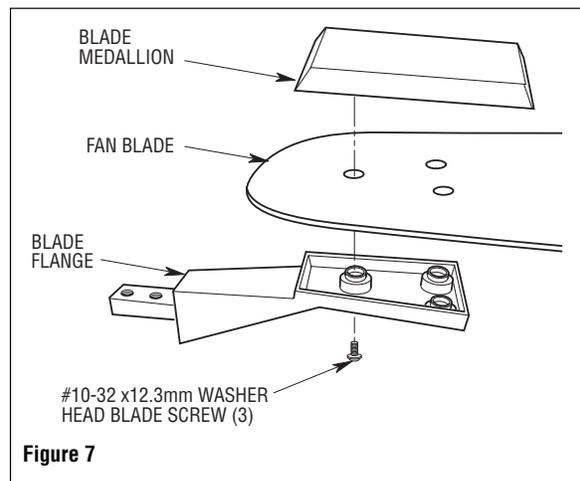

Figure 7
9. Position one blade medallion onto the blade. Place the blade flange to the other side of the blade to secure the medallion and blade to the flange. Mount the medallion, fan blade, and blade flange using the three #10-32 x 12.3mm washer head blade screws (Figure 7).